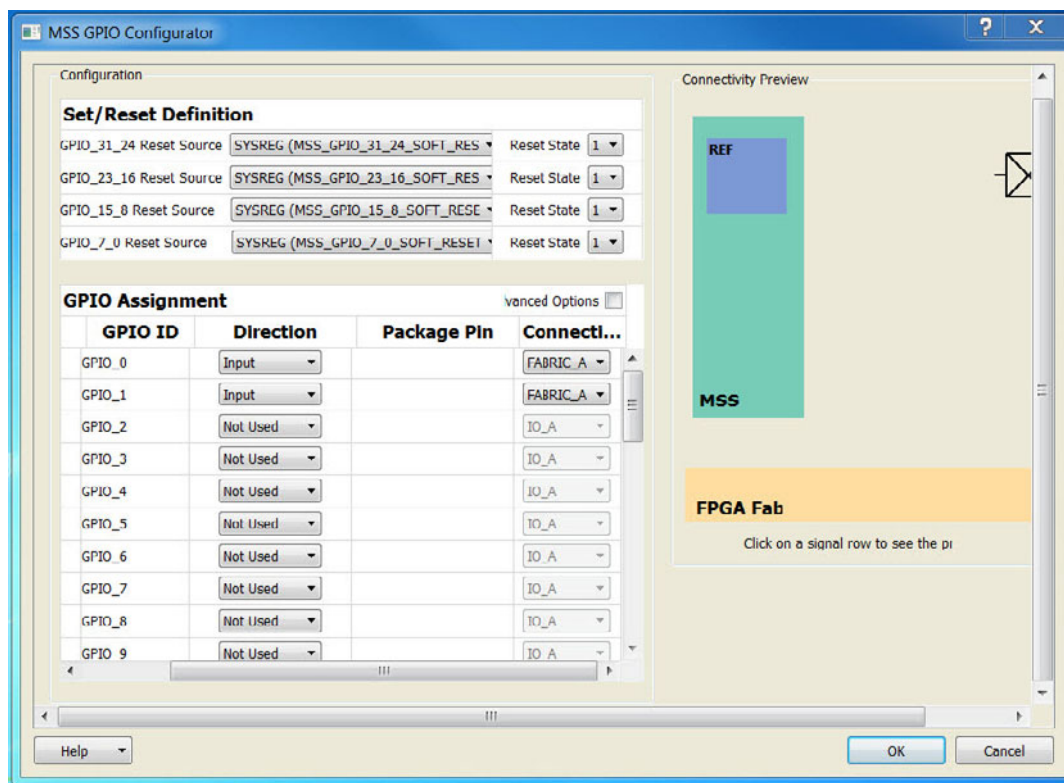

Figure 2-7 • MSS GPIO Configurator
7. Double-click the **GPIO** block in MSS to configure it. Configure GPIO_0 and GPIO_1 as **Inputs** (as shown in Figure 2-7) and select Fabric_A from the drop-down list for the Connection. Leave the